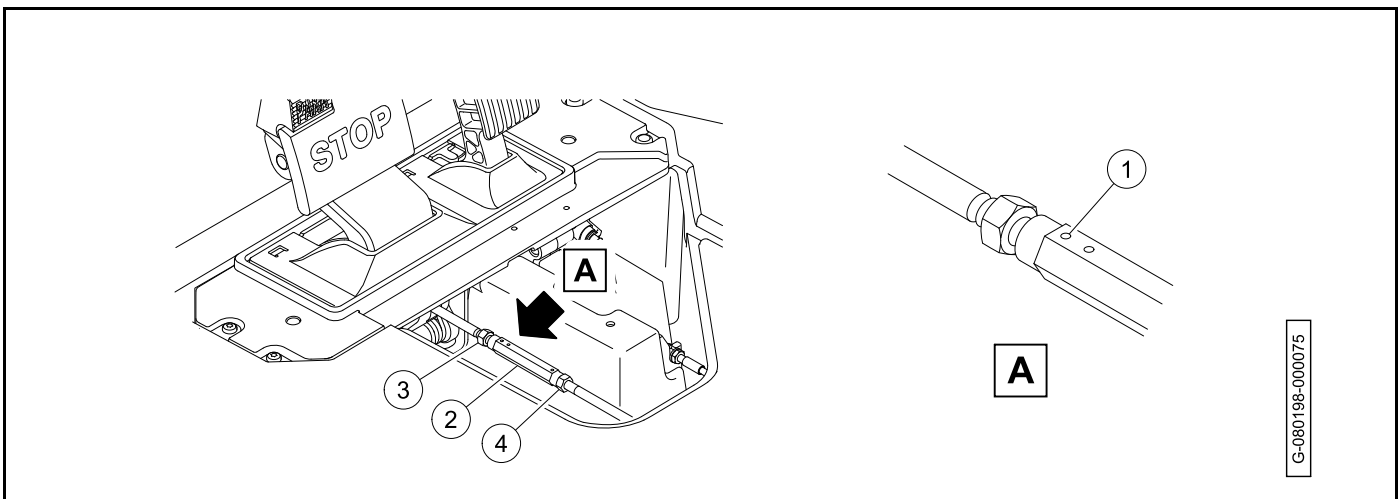

Figure 6-18
3. Make sure that the threaded rods are visible in the holes (1) of the turnbuckle (2) (**Figure 6-18, Page 6-10**).